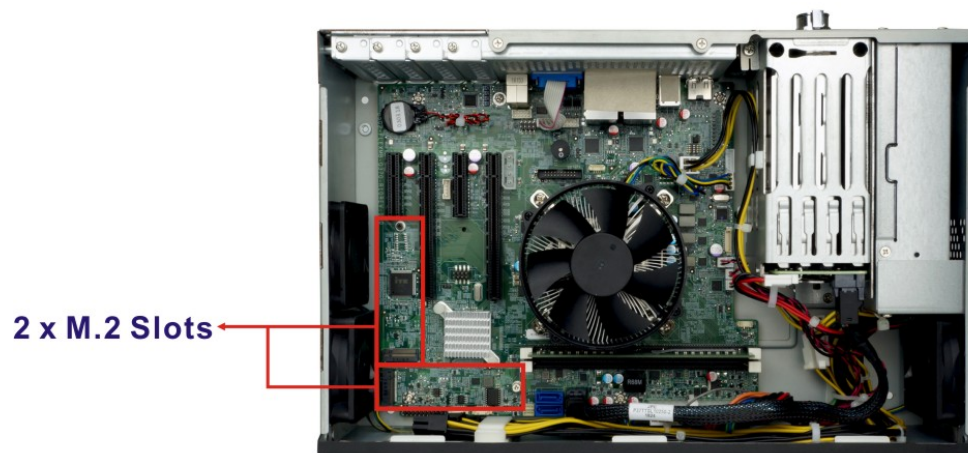

Figure 3-12: M.2 Slot Locations
Step 2: Locate the M.2 slot as shown in Figure 3-12.